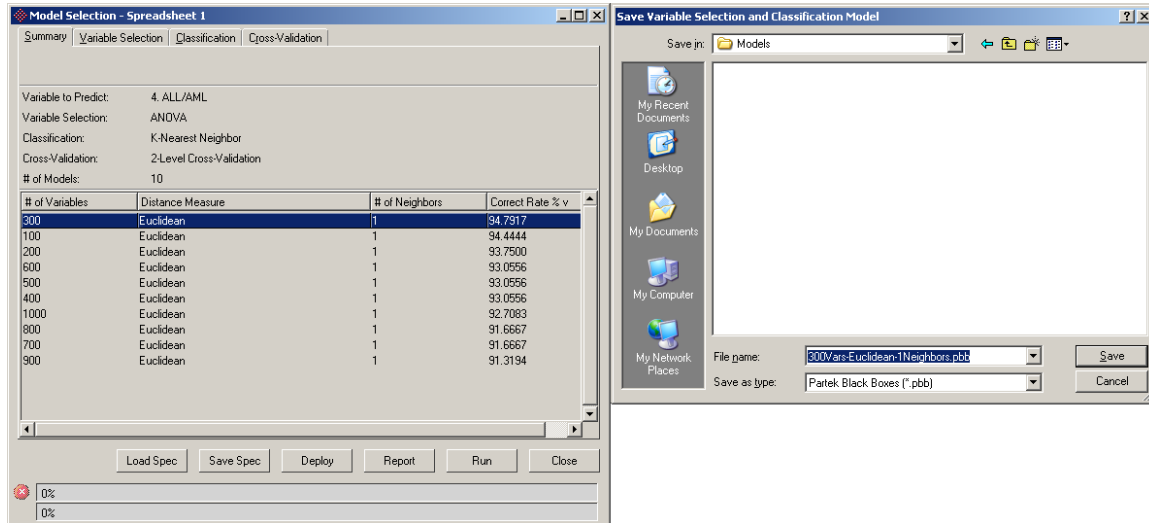

Figure 12. 51: Deploying a model in the Summary tab
- As shown in the Figure 12. 51, highlight the model to deploy, and click the *Deploy* button. In the pop-up dialog *Save Variable Selection and Classification Model*, give the model a file name, and click *Save* to save the model as a *Partek black box (.pbb)* file